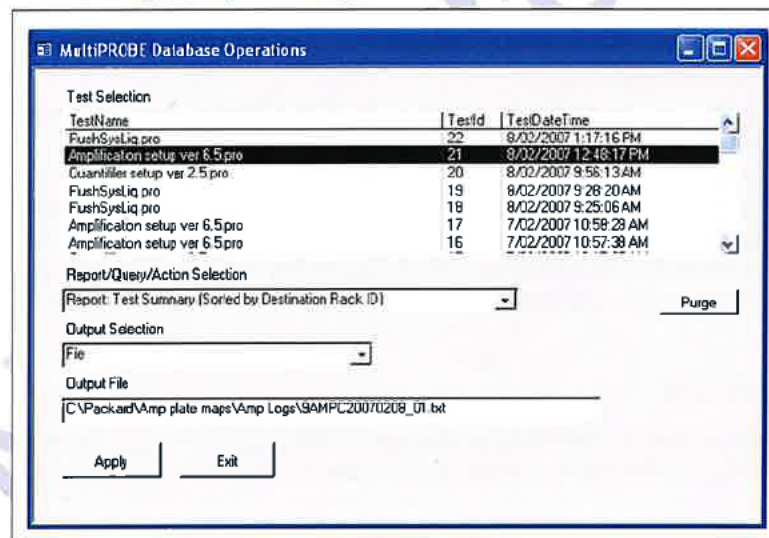

Figure 4. The MultiPROBE log database for collecting MP II run information
50. In the Output Selection dropdown menu, select "File". Save the output file as *.csv format to **C:\PACKARD\EXT PLATE MAPS\EXT LOGS** with the same name as the AUSLAB batch ID and click "Apply". (refer to figure 4. below)